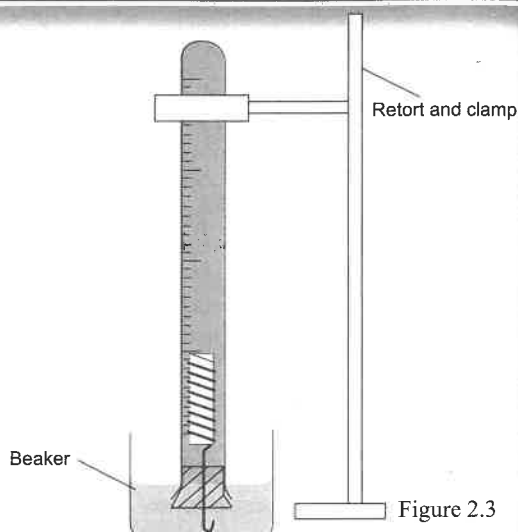

Figure 2.3
6. Cover the hole with a finger, invert the gas measuring tube and place it in the beaker as shown in Figure 2.3. Clamp the tube in place. The acid, being more dense than water, will move down through the water and start to react with the magnesium.